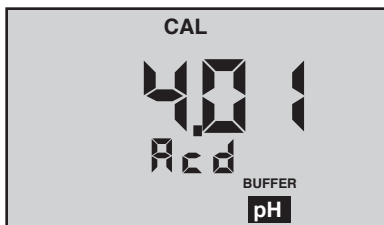

Figure 7
- At this point the “CAL”, “BUFFER” and “Acd” or “bAS” annunciators will be displayed (see Figures 7 and 8).